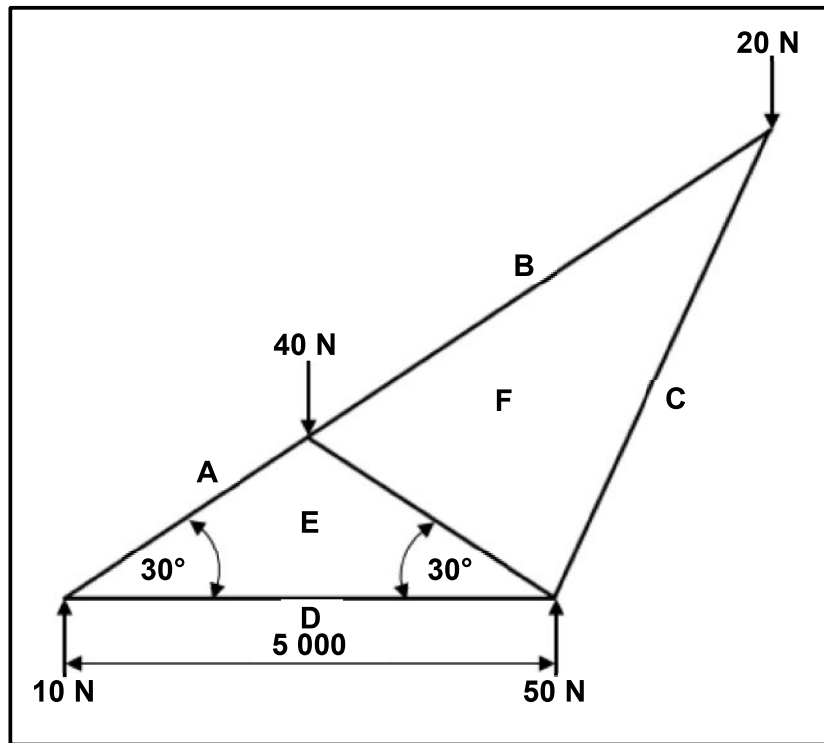

FIGURE 7.3
- Bending moment diagram: 1 Nm = 1 mm (5)
- 7.3 FIGURE 7.3 below shows a roof truss for a warehouse. Study the diagram and answer the questions that follow.